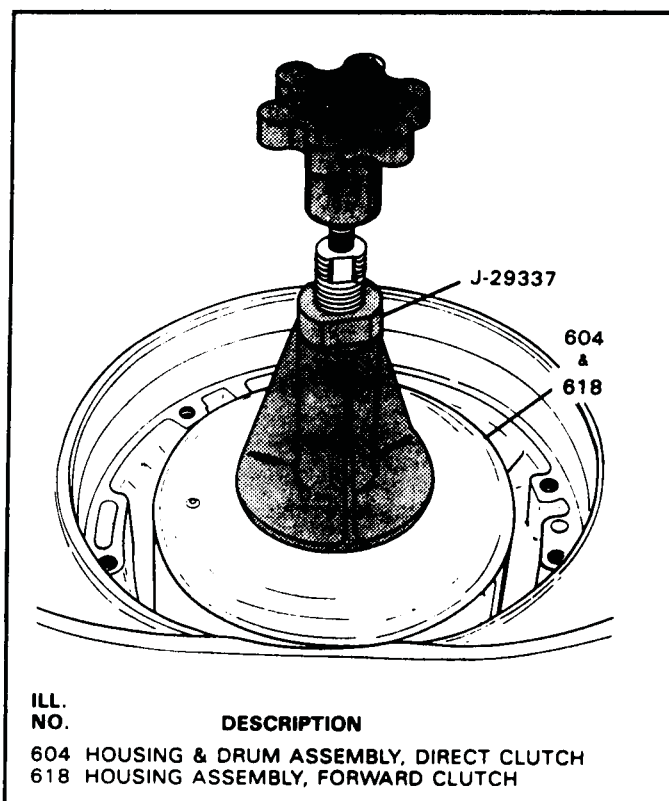

Figure 54
6. Install the lifting tool J-29337 on the forward clutch shaft as shown in Figure 54.
7. Remove the forward and direct clutch housings by lifting straight up (See Figure 54).